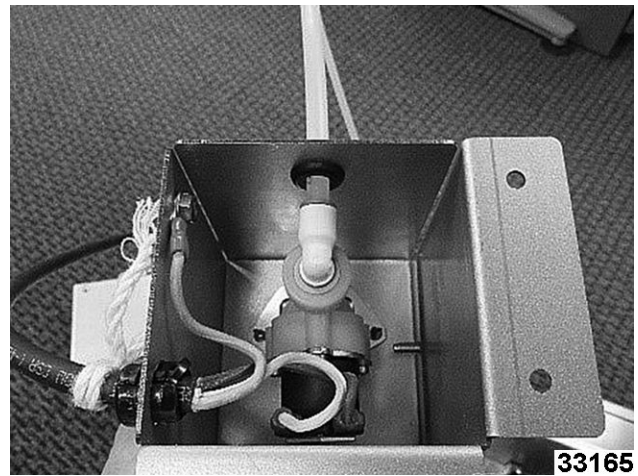

Fig. 66
1. Insert 1/4" poly tube from spray nozzle assembly through grommet on side of solenoid cover, and connect to the Push-to-Connect (PTC) elbow attached to the bottom of the solenoid (Fig. 66).